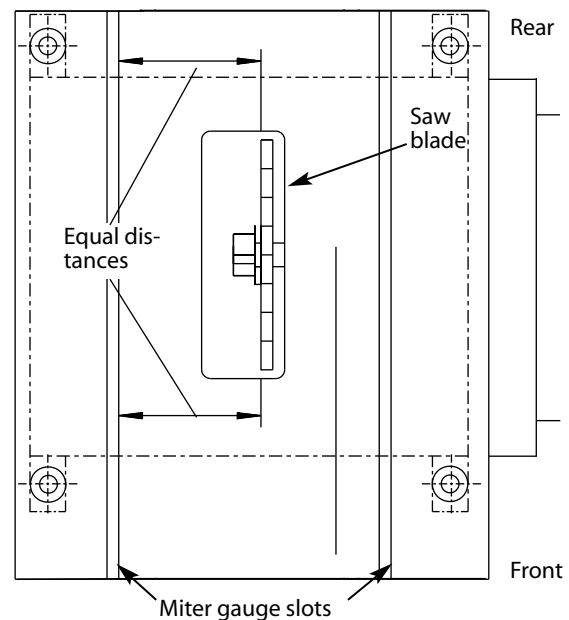

Figure 3 – Aligning Miter Slots to Blade
Refer to Figures 3 – 12.
Refer to Figures 3 and 11.
3. Gauge this tooth with the dowel rod. If the tooth is in the same position, relative to the miter gauge, the table is parallel with the blade. In short, the miter gauge slots must be parallel with the blade. This means that when measuring distance between blade and slot at the front and rear of the blade, the distances will be equal (See Figure 3).
4. If an adjustment is necessary, proceed as follows: (Refer to Figures 3 and 11). Loosen the hex head bolts and lock washers (Figure 11, Ref. Nos. 10 and 4) to the base (Figure 11, Ref. No. 11). Shift the table until a position is found where the saw blade is parallel to the miter gauge slots.